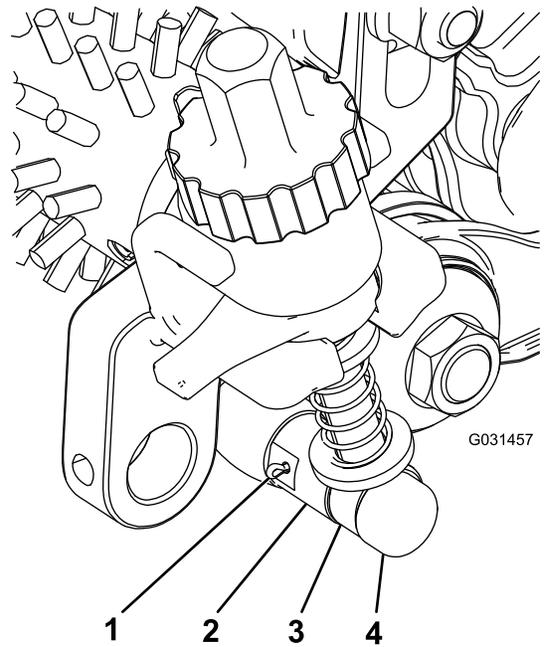

Figure 20
- Align the adjuster-arm assembly rod near the idler assembly with the adjuster collar on the idler assembly and secure it with an adjuster pin and cotter pin (Figure 20).